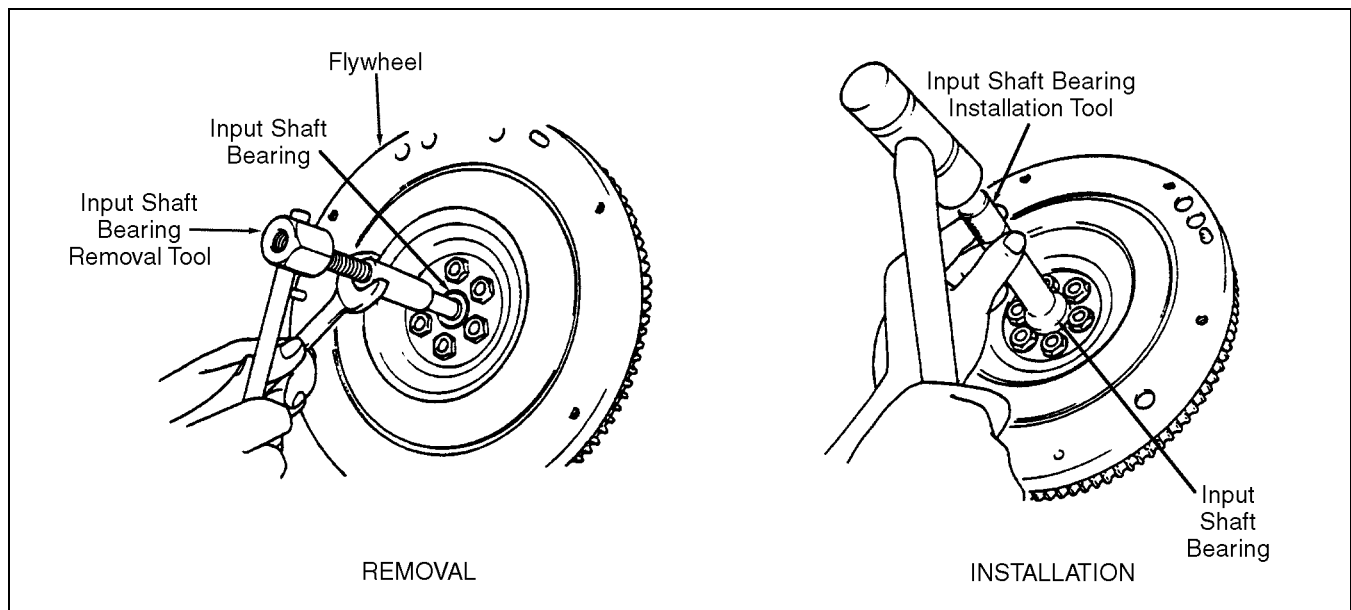

Figure 4G-1. Input Shaft Bearing Replacement
3. Install a new bearing as shown in Figure 4G-1.